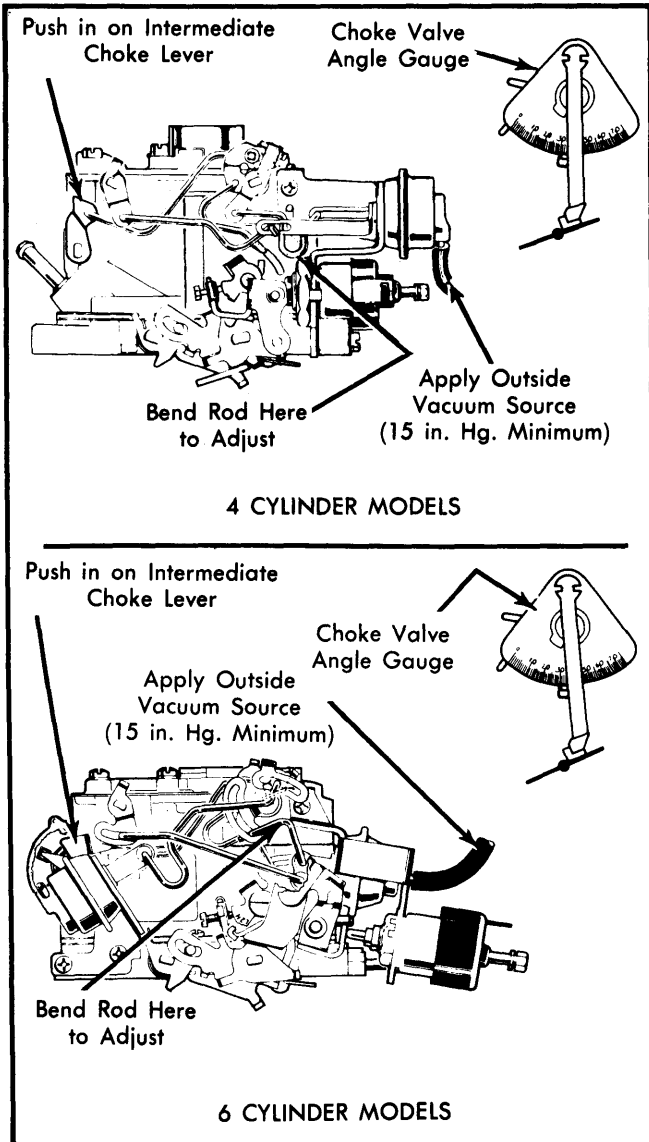

Fig. 7 Primary Vacuum Break Adjustment
1) Using an outside vacuum source of at least 15 in. Hg, seat primary choke vacuum break diaphragm. See Fig. 7.